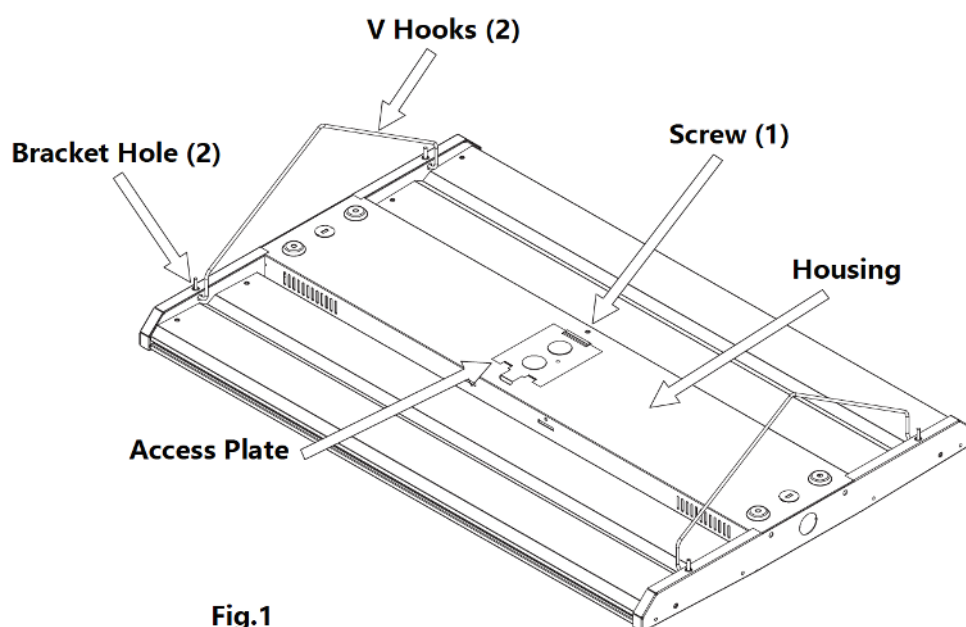

Fig.1
1. V Hooks (2) and Chain are provided for mounting. Secure V Hooks through Bracket Hole at back of Housing as shown (Fig. 1).
4. Reinstall Access Plate and secure with supplied Screw (1).